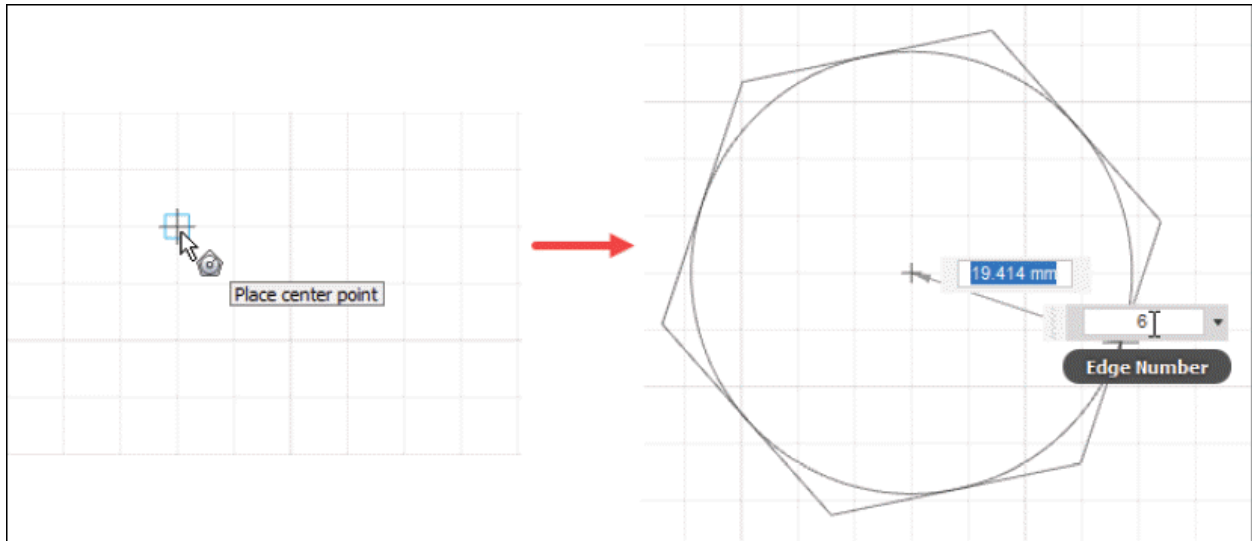

Figure-26. Creation of circumscribed polygon
- Click on the screen to specify the center point of the polygon; refer to Figure-26. You will be asked to specify radius of reference circle.